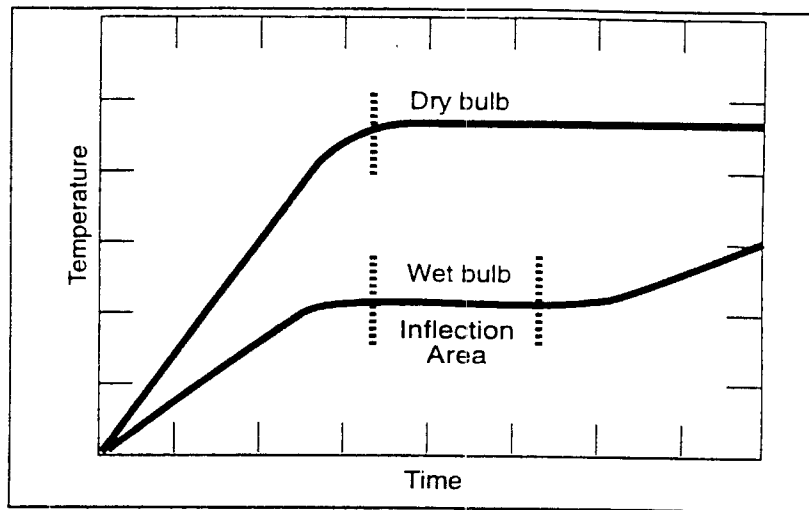

Figure A-8. Equilibrium and inflection points of dry bulb and wet bulb thermometers
- Step 3. Insert the wet bulb thermometer into the duct and allow the thermometer to come into equilibrium with the flue gas temperature. The temperature reading (as a function of time elapsed) should change in a manner indicated in Figure A-8.